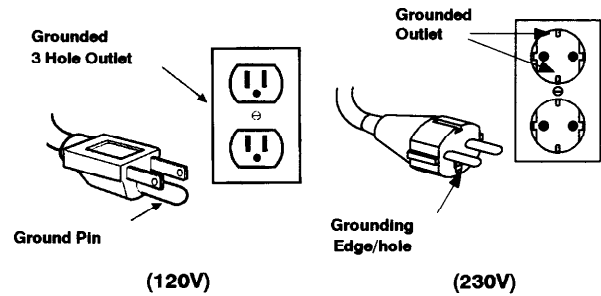

Figure 33
5. With charger disconnected from machine, plug charger's power cord into a grounded wall outlet (Fig. 33).